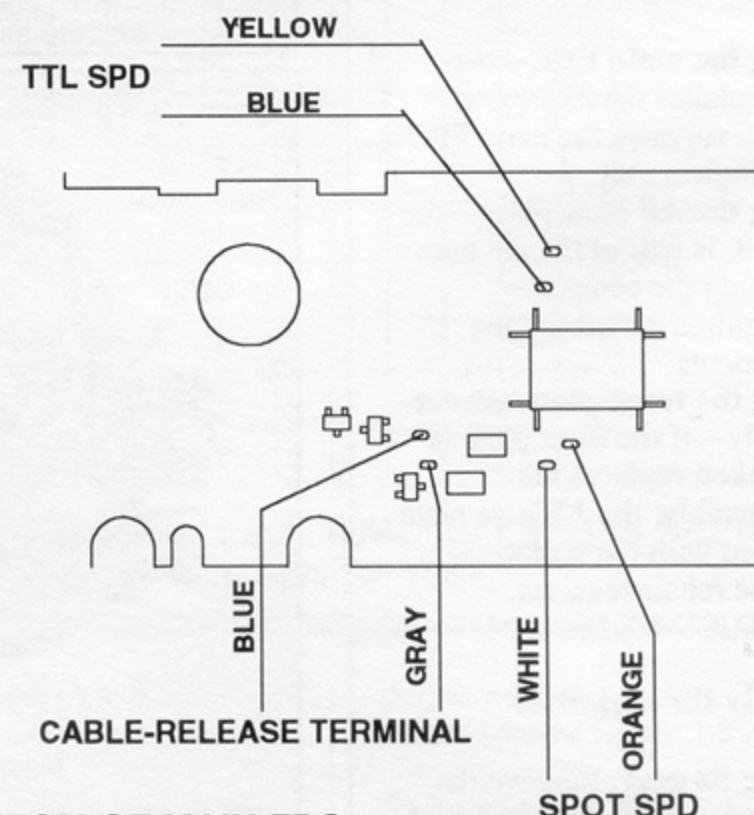

FIG. 11 BOTTOM OF MAIN FPC
4. unsolder blue and gray cable—release wires from bottom of main FPC, Fig. 11
4. unsolder wires at bottom near head amplifier IC, Fig. 11: